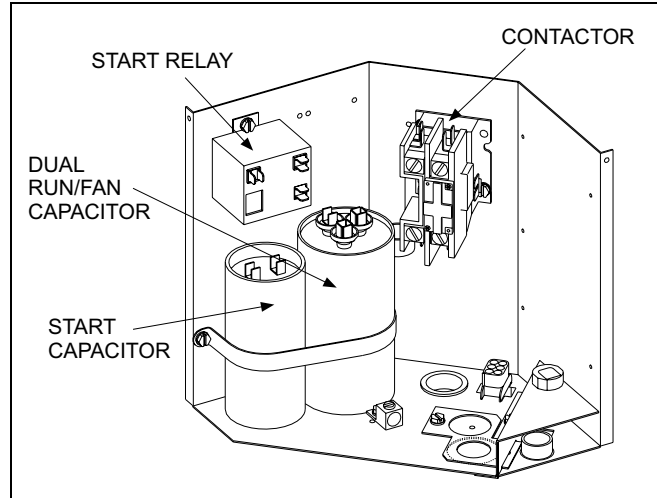

FIGURE 1
1. Use the two pilot holes on the left angled side to attach start relay. See Figure 1.